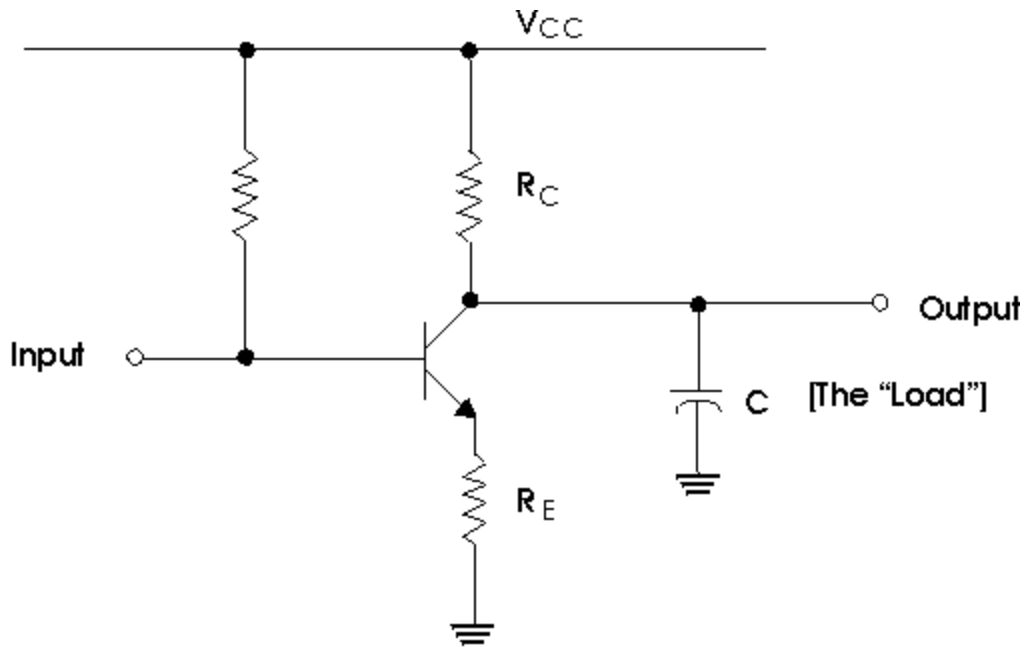

Figure 1
Look at the simple one-transistor amplifier in *Figure 1*. The gain of the circuit is given by equation EQ-5 while the bandwidth is given by equation EQ-6.
Let's look again at the circuit in **Figure 1**. Suppose we lower R_e to increase the GBW, but we want to keep the same gain. Then we must also lower R_c . In amplifiers such as figure 1, the average (DC) voltage across R_c is approximately half the supply voltage. So the power (P) dissipated in R_c is